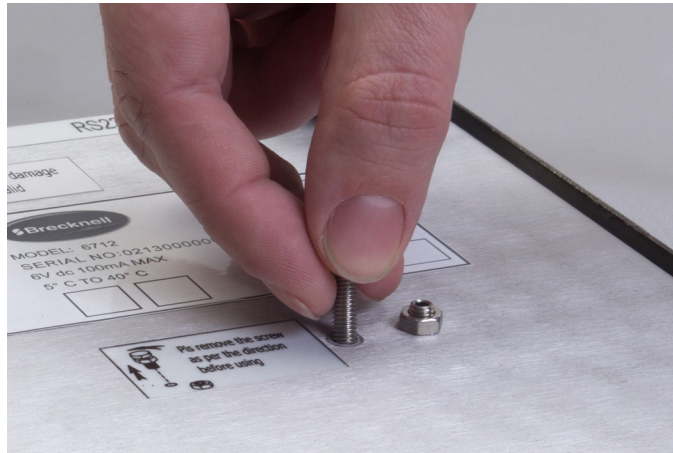

Figure 2.1 Shipping Screw Location
2. Remove the shipping screw from the under side of the scale base. Refer to Figure 2.1.